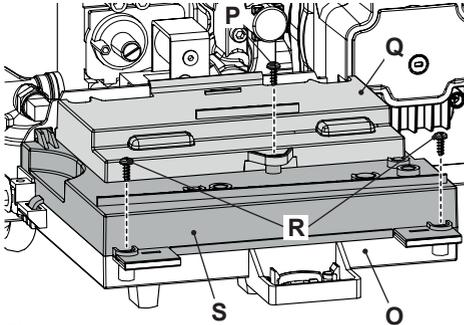

Figure 5.18
- Unscrew the screw **N** (Figure 5.17) and turn the control panel **O**, as shown in Figure 5.18.
- Unscrew the screw **P** and lift the cover **Q** to release the cables from the cable gland (Figure 5.18).
(Figure 5.18).